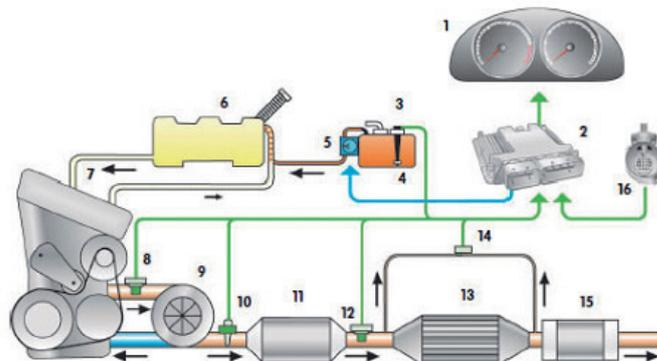

Figure 2. FAP
- Diesel Particulate Filter Systems with additive (FAP)(figure 2).